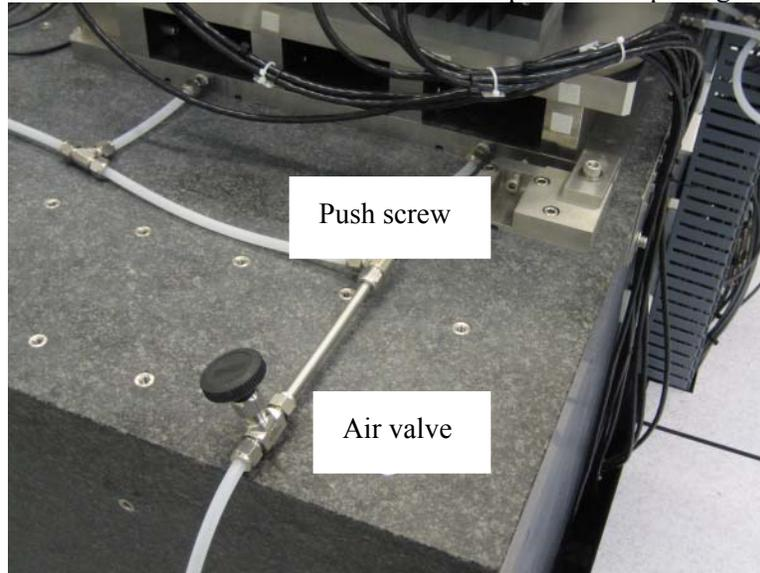

Figure 3: Air bearing valve and chamber push-screws.
4. Float the table by opening the pressure valve to the air bearings (see Figure 3).
5. Move the chamber using the push-screws (see Figure 3). You can use the parallels (gauge blocks) to pre-set certain distances. Make sure all optical components are on axis.